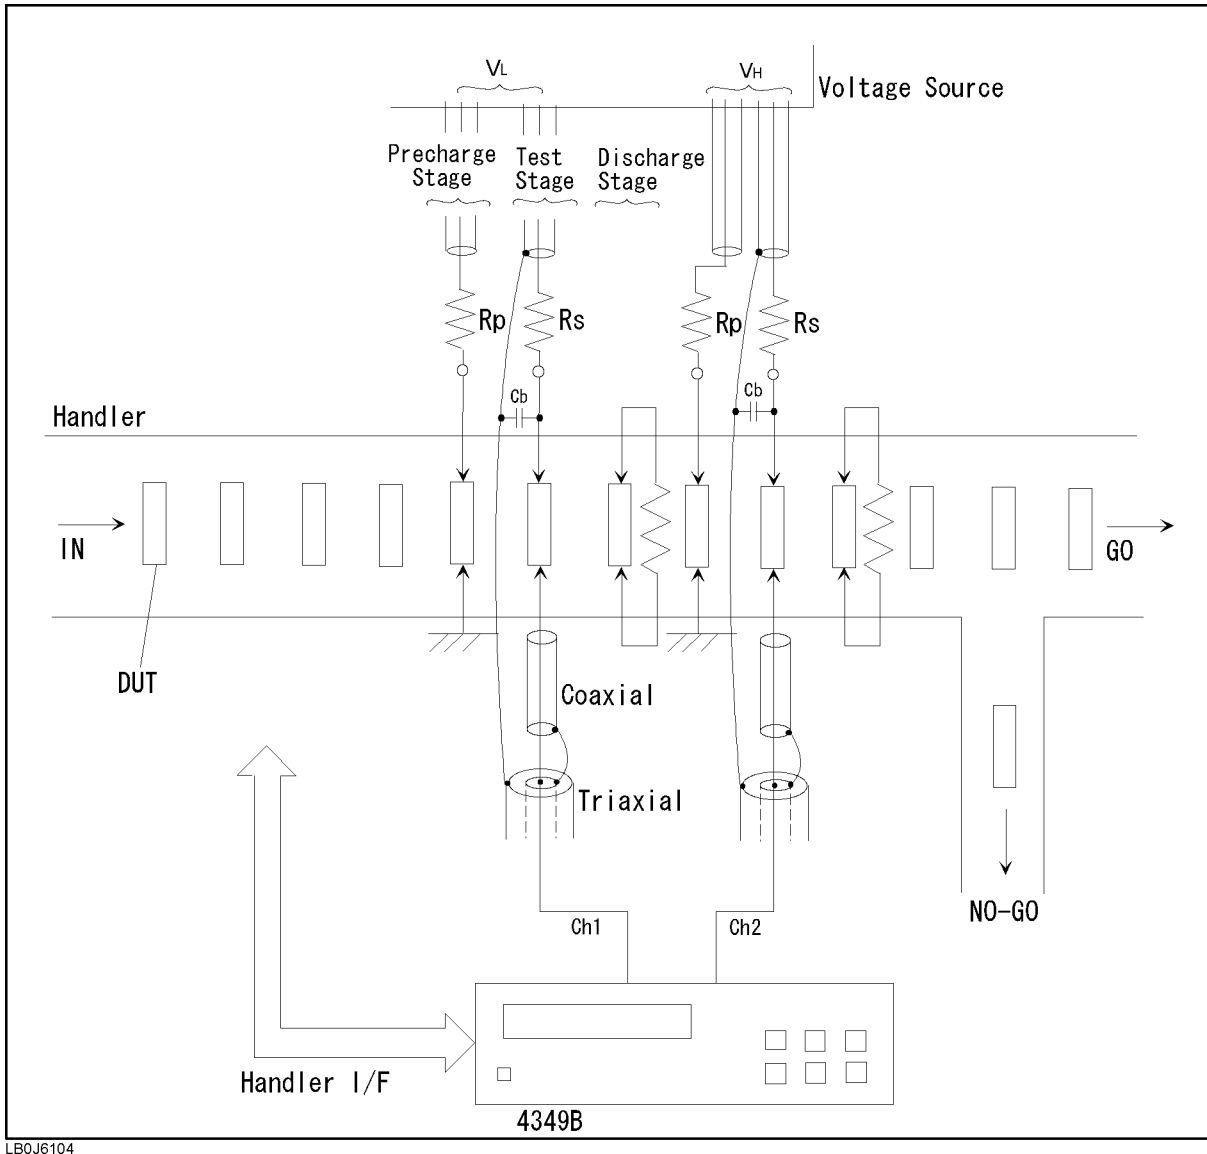

Figure 6-3. Multi Test Voltage Measurement System
1. Set up the measurement systems. Figure 6-3 shows the typical system. Refer to “ Installation” in Chapter 2 for information on setting up the system.